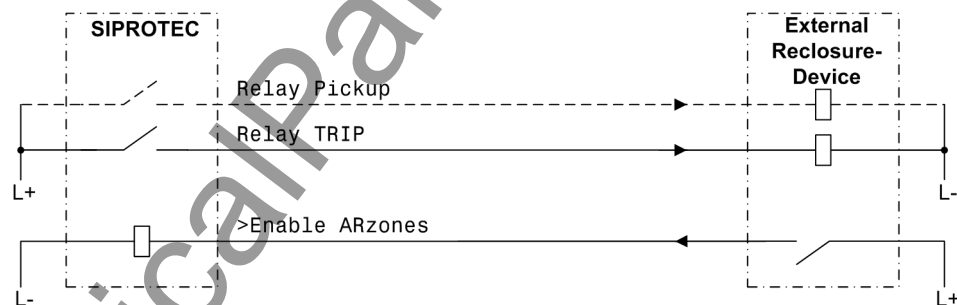

Figure 2-155 Connection example with external reclosure device for 3-pole AR
• In case of exclusively three-pole reclose cycles, the general pickup signal (No. 501, if required by the external reclosure device) and trip signal (No. 511) of 7SD5 (see Figure 2-155) are usually sufficient.